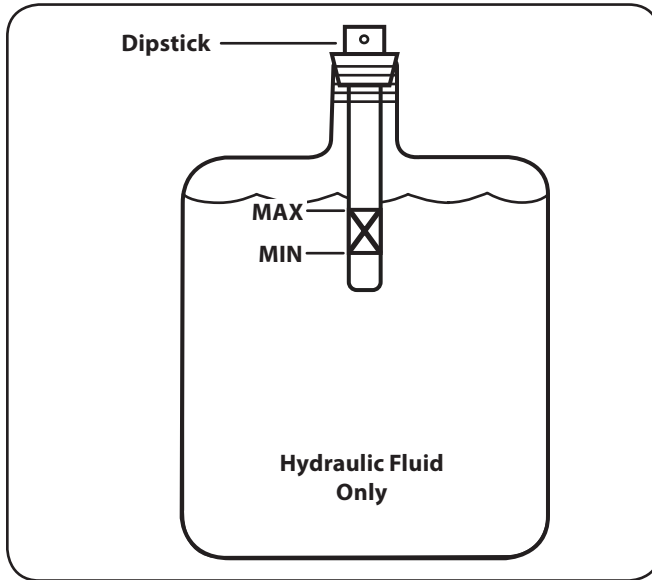

Figure 6-2
9. If necessary Refill the reservoir within range marked on the dipstick. See Fig. 6-2.